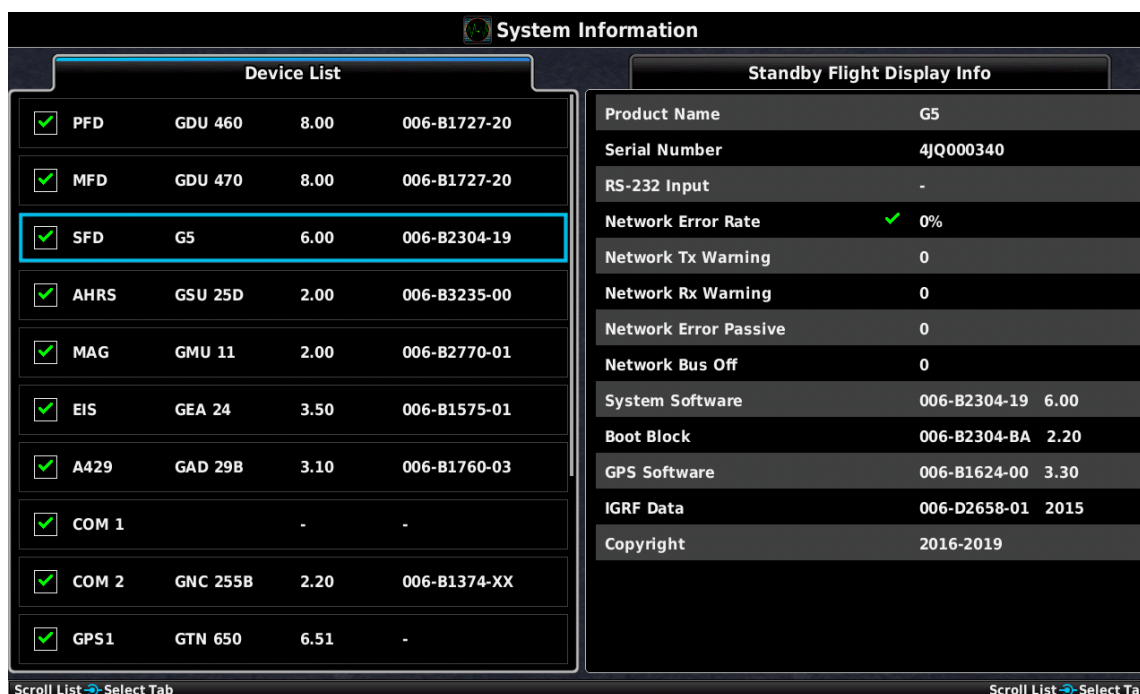

Figure 5-3 – Network Error Rate (Configuration/Diagnostic Mode)
- Scroll the Device List box and the select each device and verify the value displayed for Network Error Rate is a steady 0% (Figure 5-3). Also verify the other network counts values listed on Table 5-3.